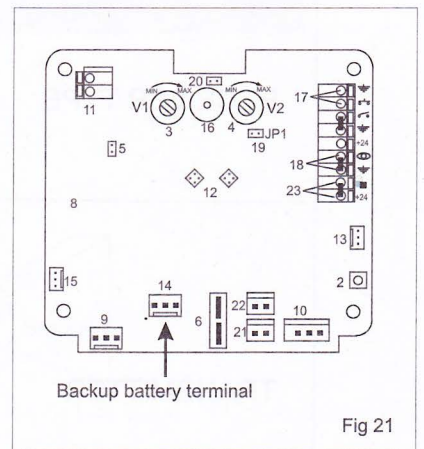

Fig 21
15.1 An optional backup battery could be added on by connecting to Terminal 14 on the ECB, refer to Fig 21. For more details on how to connect, please refer to the installation instruction inside of the backup battery packing.